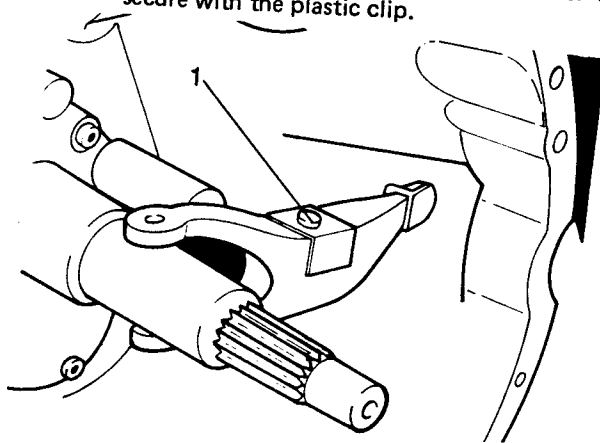

Fig H1.26
(6) Refer to Fig H1.26. Replace the bolt, washer and clip (1) holding the clutch lever to its supporting pivot.